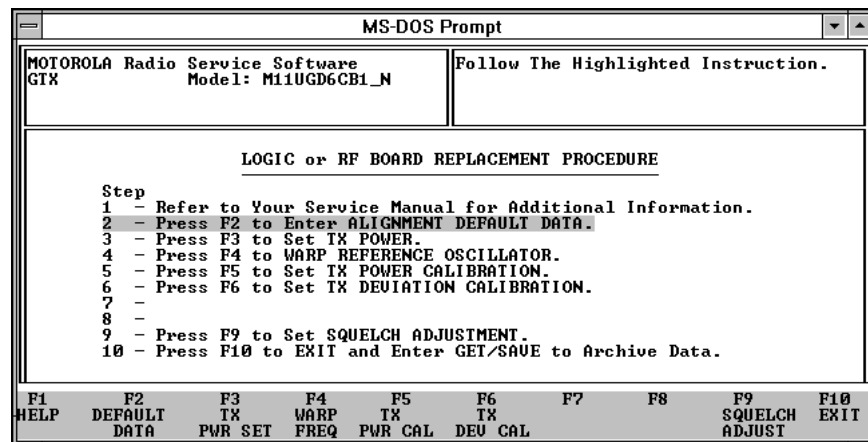

Figure 11.6 – Logic or RF Board Replacement Procedure
7. Press F2, "LOGIC OR RF BOARD", from the Board Replacement Menu. The "Logic or RF Board Replacement Procedure" screen is shown in Figure 11.6.